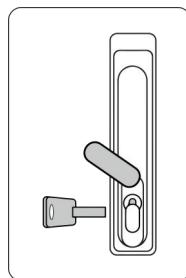

Figure.3
3. Insert the door key and turn it clockwise to eject the handle.See the Figure.3.